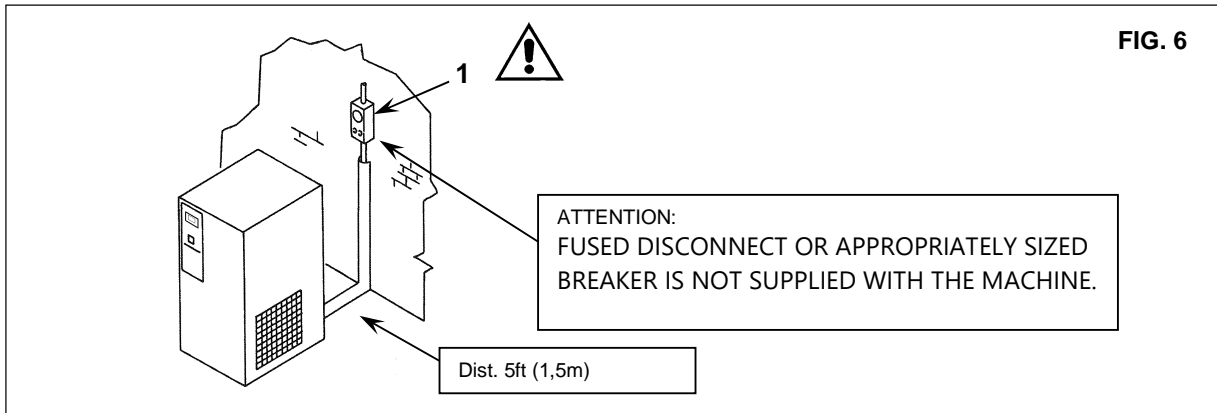

FIG. 6
- ensuring that there is sufficient space around the machine to allow maintenance (see Fig. 6).
- **Ensure that there are disconnecter switch Ref. 1 Fig. 6 and fuses upstream the machine. For details (size and type) see wiring/service diagram.**